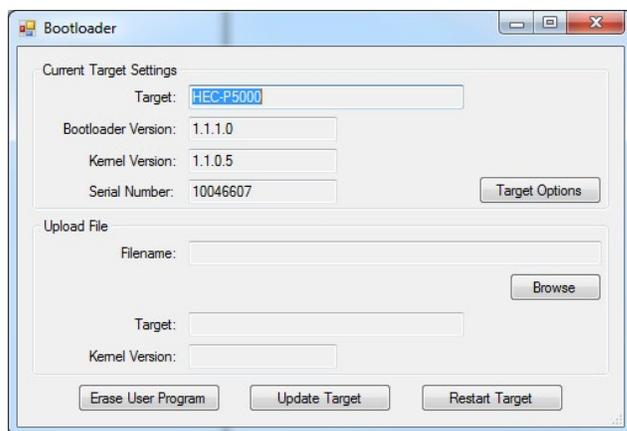

Figure 2.43 - HEC-P6XXX Bootloader
7. Using the menu, click **PROJECT** then **BOOTLOADER**. You may see a window momentarily while EZ LADDER connects to the HEC-P6XXX's bootloader. The Bootloader window will open. See Figure 2.43.